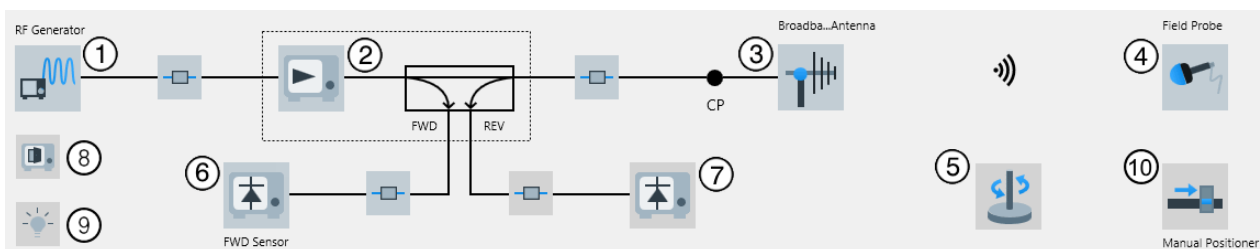

Figure 4-152: EMS hardware setup diagram (radiated) for an Anechoic Chamber in Calibration View
- The "Calibration View" (see Figure 4-152)